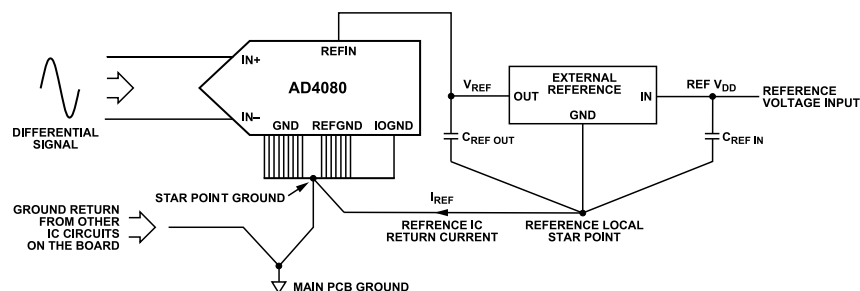

Figure 108. AD4080 External Reference Ground Connections
- ▶ Recommended connections of ground (GND), reference ground (REFGND), and digital ground (IOGND) connections are shown in Figure 108. It is recommended to not keep the current return path of the reference IC in the same current loop as the current return loop from the other circuitry on the PCB. Connect the reference local star point to the ADC star point ground on the top layer of the PCB as shown in Figure 108.